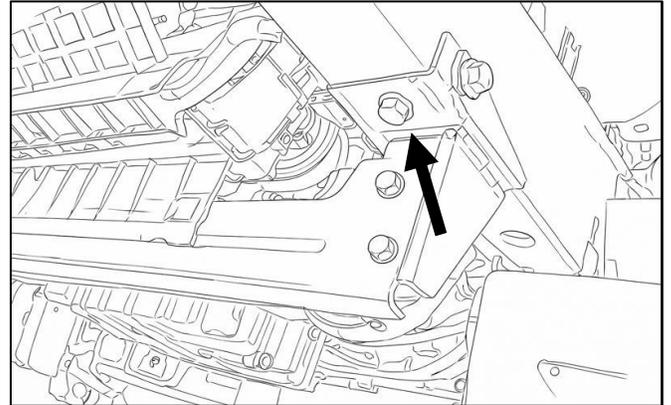

Figure 11: Black Crossbar Bolt to Remove
13.  Remove the bottom screw that attaches the black crossbar to the underside of the frame rail. See **Figure 11**.